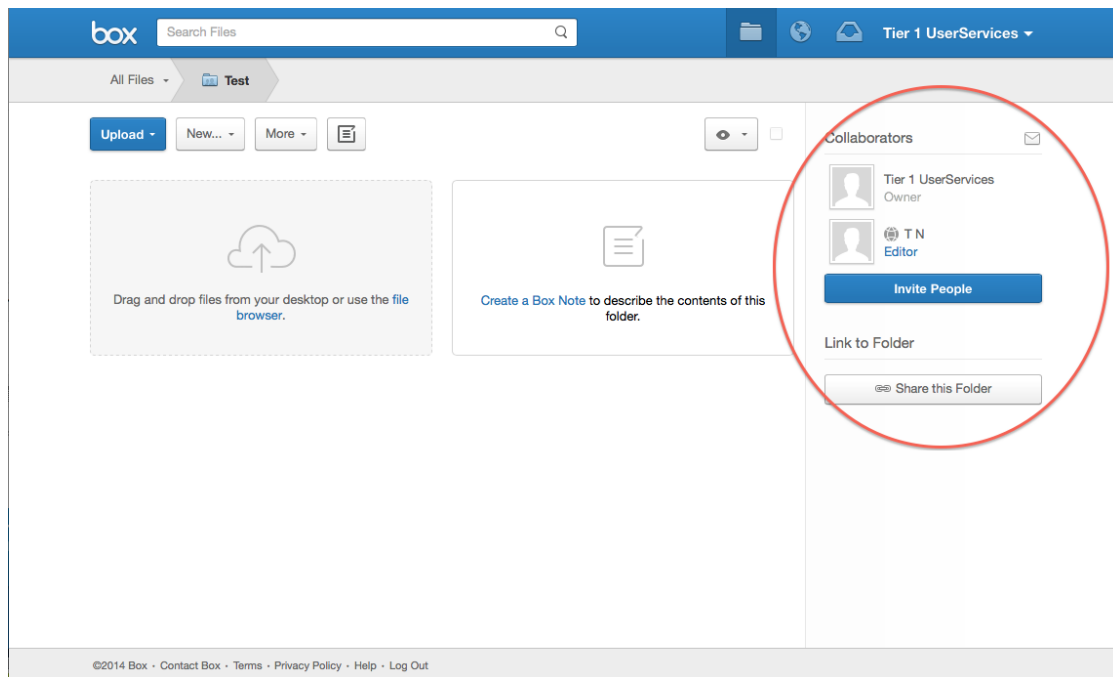

Figure 2: How to invite collaborators
- 6.4.1.5. To invite collaborators to a folder, GT Medical's Executive Representative and/or QA Representative will need to click on the "Invite People" box on the sidebar of the folder (see Figure 2). A pop-up window will appear where they will be able to enter the email addresses³ of the individuals to add.